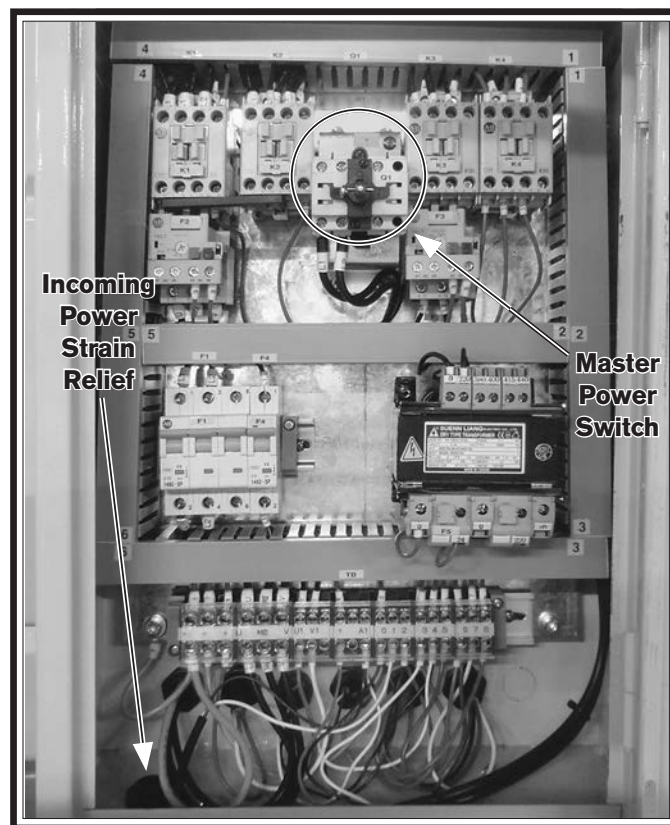

Figure 20. Location to connect power inside main electrical cabinet.
2. Thread the power cord through the strain relief, and up to the master power switch shown in **Figure 20**.